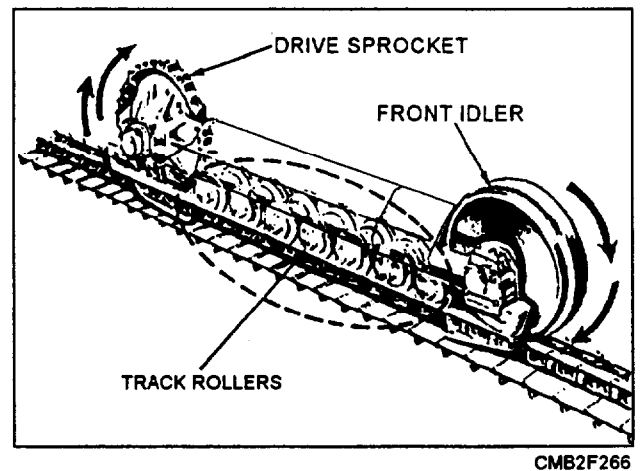

Figure 6-25.—Track rollers in position in the track frame..
- Track rollers (fig. 6-25) are double- and single-flanged rollers that supports the weight of the tractor, ensures that the track chain is aligned with the track frame at it passes under the rollers, and prevents side to side track movement and derailment. In a normal arrangement, a double-flanged roller is directly in front of the drive sprocket, followed by a single-flanged roller. The rollers alternate forward to the front idler.
The front idler, as shown in figure 6-25, serves as a guiding support for the track chain. The idler is spring-loaded and mounted on slides or guides that allow it to move back and forth inside the track frame, as the tractor passes over uneven terrain. The spring loading